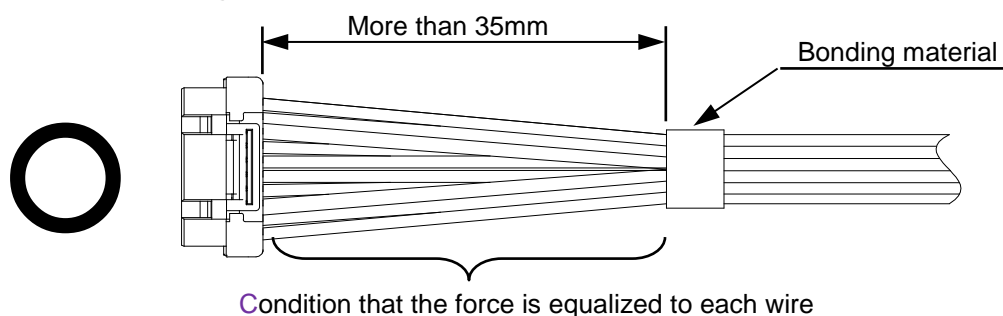

Fig.7-1 Condition that harness is banding properly
- ① Please band the wires at more than 35mm length from connector and equalize the force to each wires(**Fig.7-1**)